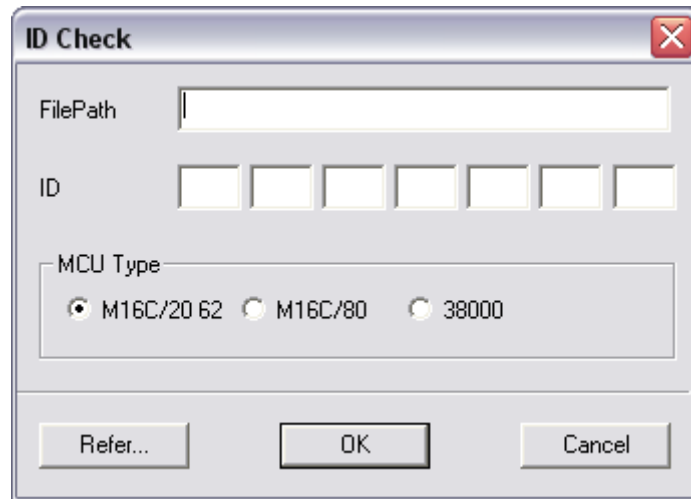

Figure 25-2 - Software selection screen
4. The "ID Check" screen shown in Figure 25-2 should appear. Click the "Refer..." button, and locate and select the supplied file XXXXXX.mot. The ID fields should be filled in automatically with zeroes if the .id file is present. Otherwise, they can be manually filled in with fourteen zeroes in total. Select the "M16C/20 62" radio button at the bottom, and click OK.
5. If the "ID Check" window (Figure 25-2) does not appear and the error message shown in Figure 25-3 is given instead, this means that there has been a communication failure to the Widget board. Click "Cancel" to close FlashStart. Check that the LK1 jumper is fitted on the Widget, the power is on, the cable connections from the PC to the Widget have been made correctly, and the correct COM port has been selected. Restart from Step 3.